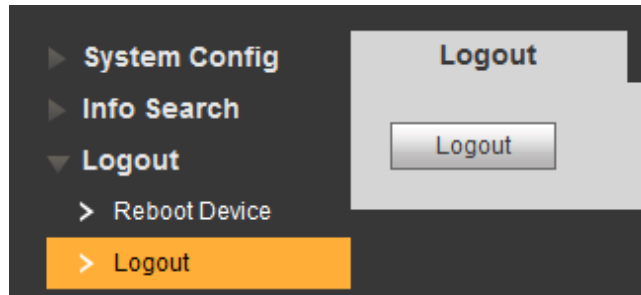

Figure 4-2
Step 1. Select Logout>Logout>Logout. See Figure 4-2.